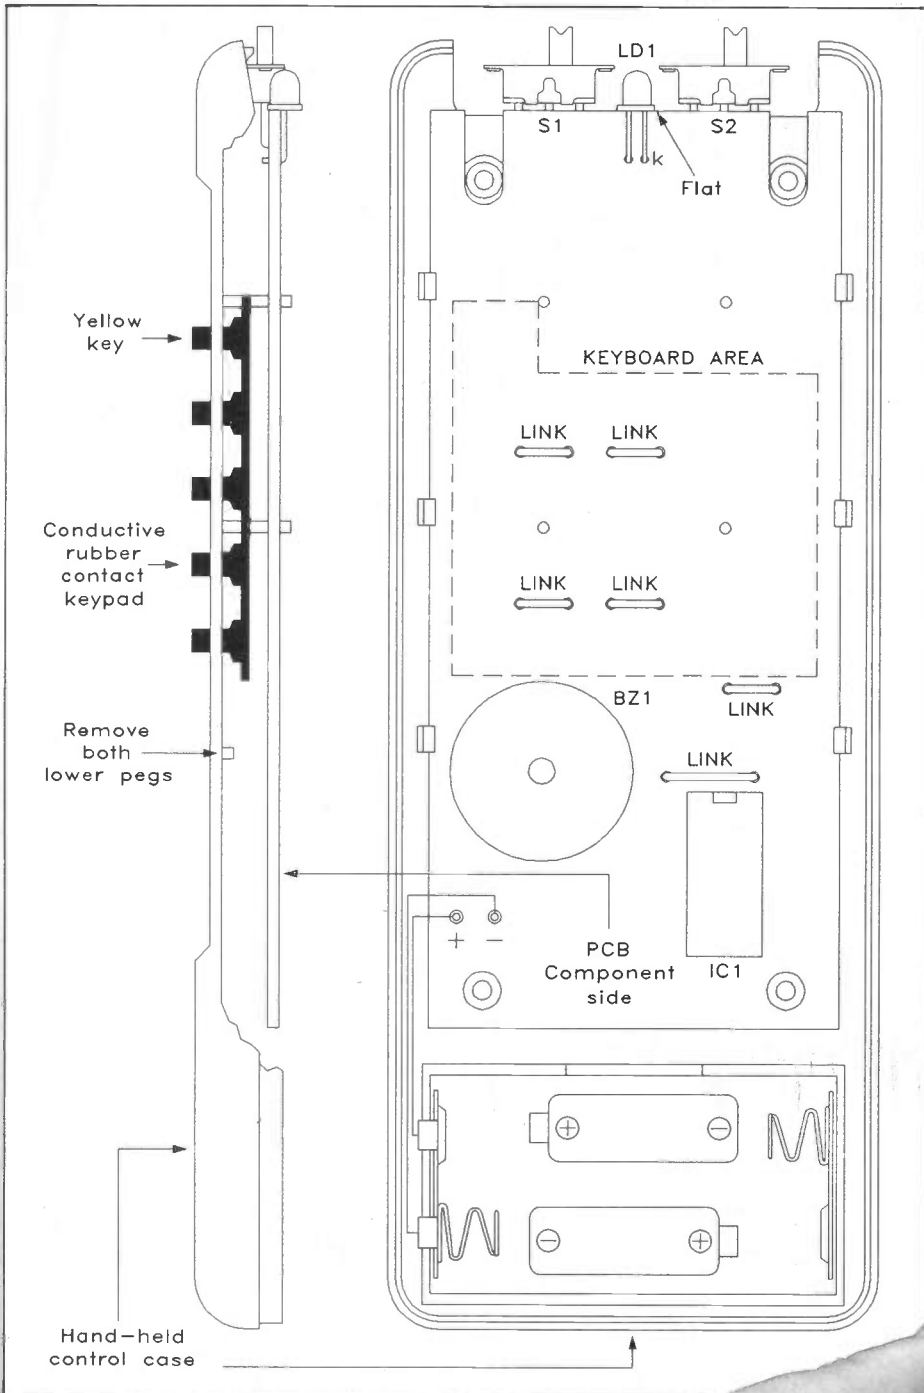

Figure 8. Keypad and PCB installation.
1. Push fit the battery spring terminals into the front half of the case, as shown in Figure 8.